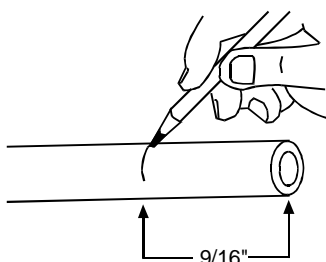

Figure 4 Mark the Length of Insertion
3. Draw a length of insertion mark 9/16-in from the open end of the tubes (*Fig. 4*).